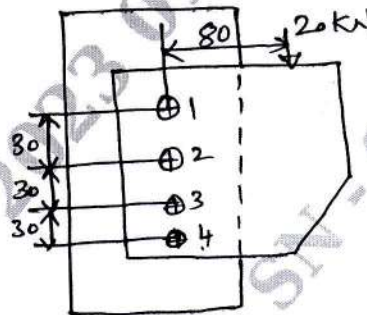

Fig.Q7(b)
- b. A bracket is supported by means of 4 rivets of same size as shown in Fig.Q7(b). Determine the diameter of rivet, if the maximum shear stress is  $140 \text{ N/mm}^2$ .